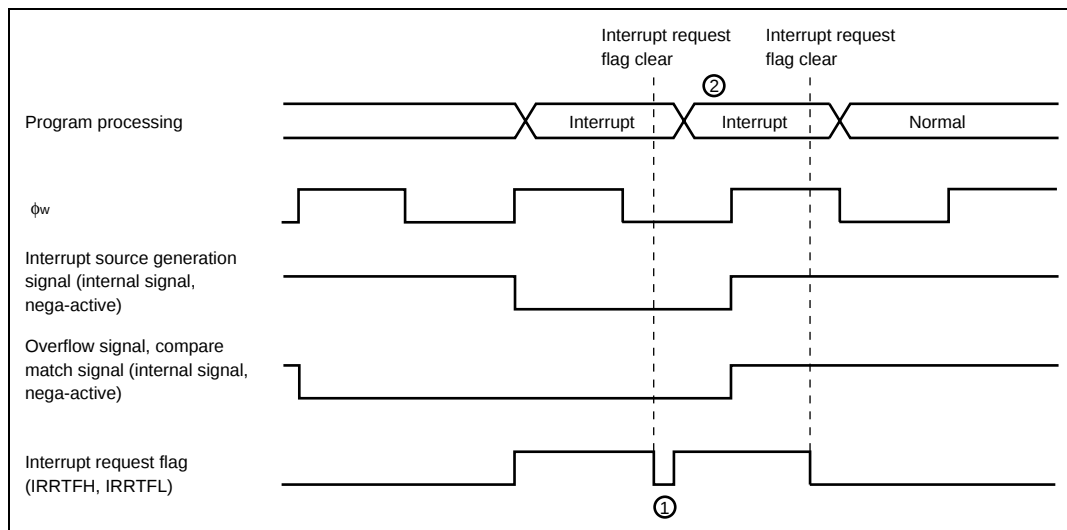

Figure 9.6 Clear Interrupt Request Flag when Interrupt Source Generation Signal is Valid
Clear Timer FH, Timer FL Interrupt Request Flags (IRRTFH, IRRTFL), Timer Overflow Flags H, L (OVFH, OVFL), and Compare Match Flags H, L (CMFH, CMFL): When $\phi_{W/4}$ is selected as the internal clock, “Interrupt source generation signal” will be operated with ϕ_W and the signal will be outputted with ϕ_W width. And, “Overflow signal” and “Compare match signal” are controlled with 2 cycles of ϕ_W signals. Those signals are outputted with 2 cycles width of ϕ_W (figure 9.6)
In active (high-speed, medium-speed) mode, even if you cleared interrupt request flag during the term of validity of “Interrupt source generation signal”, same interrupt request flag is set. (1 in figure 9.6) And, the timer overflow flag and compare match flag cannot be cleared during the term of validity of “Overflow signal” and “Compare match signal”.
For interrupt request flag is set right after interrupt request is cleared, interrupt process to one time timer FH, timer FL interrupt might be repeated. (2 in figure 9.6) Therefore, to definitely clear interrupt request flag in active (high-speed, medium-speed) mode, clear should be processed after the time that calculated with below (1) formula. And, to definitely clear timer overflow flag and compare match flag, clear should be processed after read timer control status register F (TCSRFB) after the time that calculated with below (1) formula.